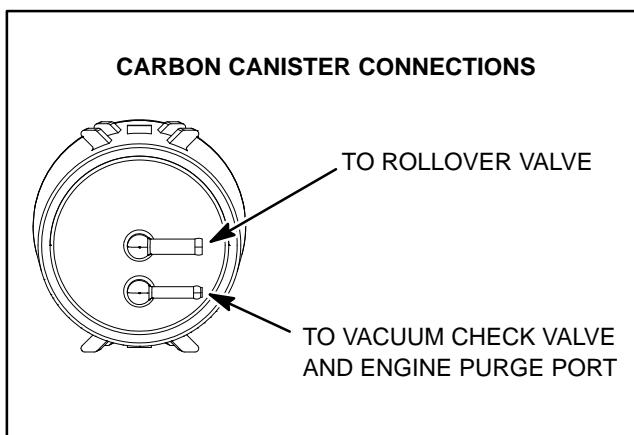

Figure 11
5. Remove EVAP components as needed using Figures 11, 12 and 13 as guides.
- A. If hoses are removed from the carbon canister, note hose location for assembly purposes. Figure 11 identifies hose location.
1. Install all removed EVAP components using Figures 11, 12 and 13 as guides.